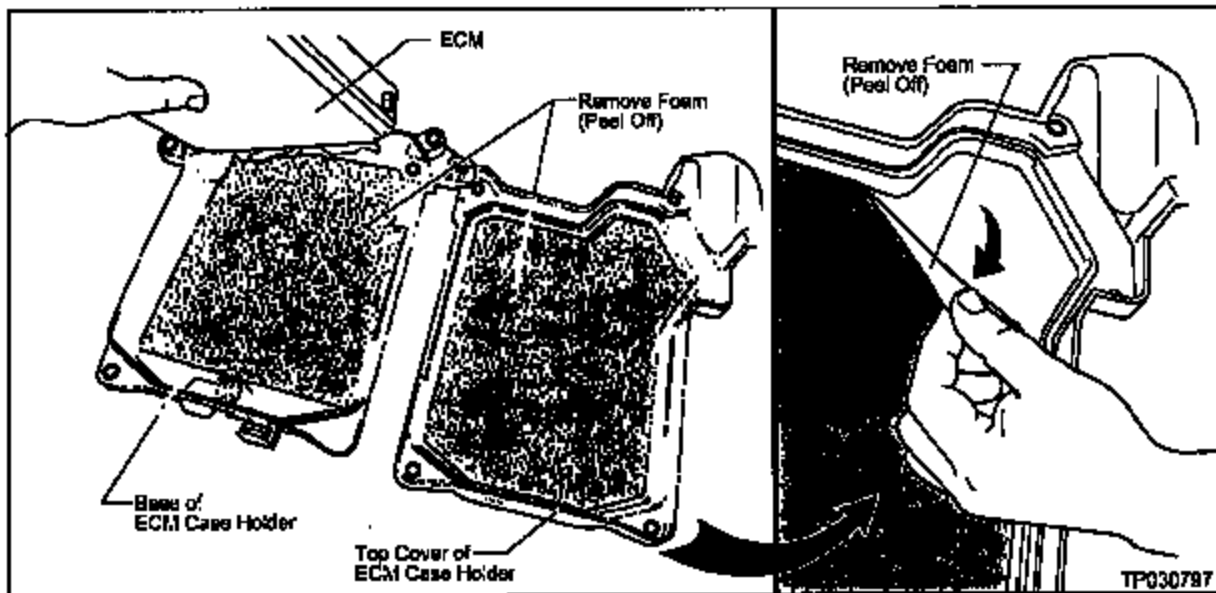

Figure 10
10. Lift UP the ECM and remove/discard the Foam from the Base and Top Cover of the ECM Case Holder (see Figure 10).